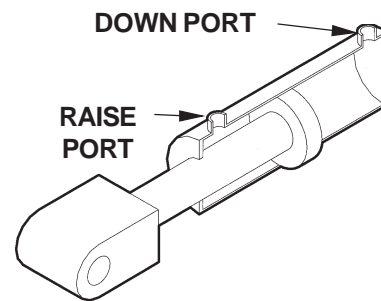

FIG. 44-1
5. Check the Hydraulic Cylinder. With the Platform on the ground, remove the hydraulic line from the Down Port of the Cylinder (**FIG. 44-1**). Raise the Platform even with the bed. Allow pump motor to run two seconds more while you watch for hydraulic fluid at the Down Port. A few drops of hydraulic fluid escaping the Down Port is normal; however, if it streams from the Down Port, Piston Seals are worn. Replace Seals.